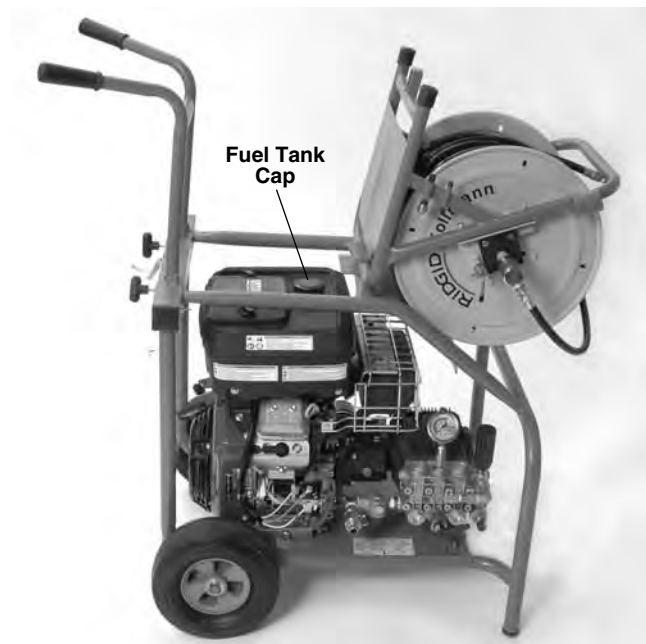

Figure 8 – KJ-3100 Fuel Tank Access
8. Check engine fuel level. For the KJ-3100, disconnect the hose reel latch and rotate the hose reel forward until it rests on the frame to provide access to the engine gas cap *Figure 8*. If needed, add unleaded